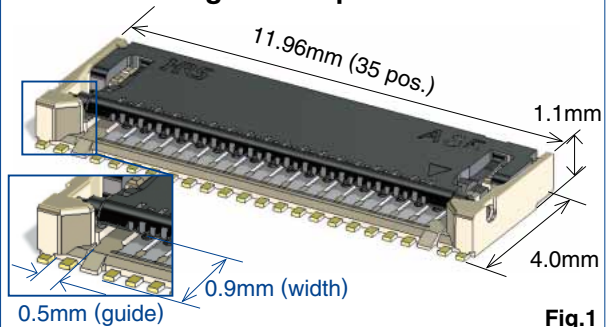

Fig.1
- Space saving design with 0.25mm pitch, 4.0mm width. (Fig.1)
- Wide guide for easy FPC insertion easy. (Fig.1)